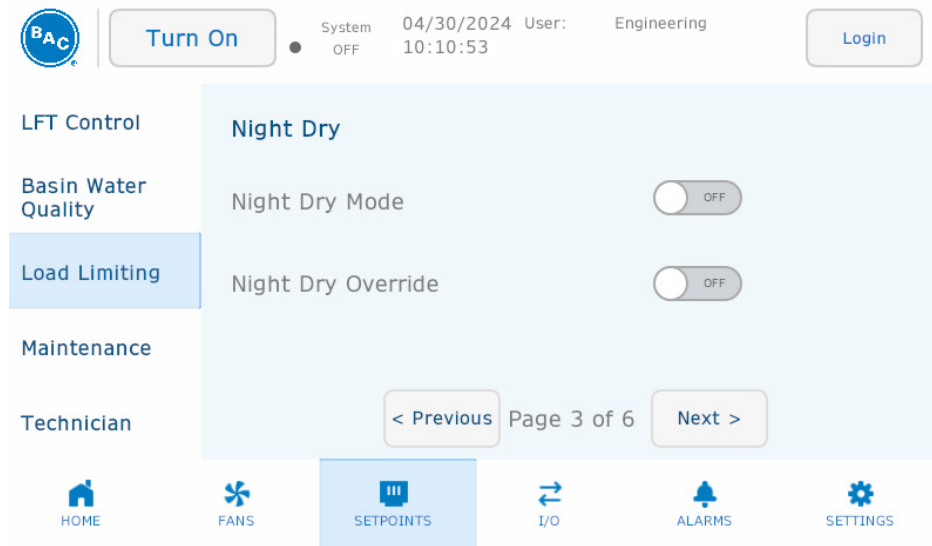
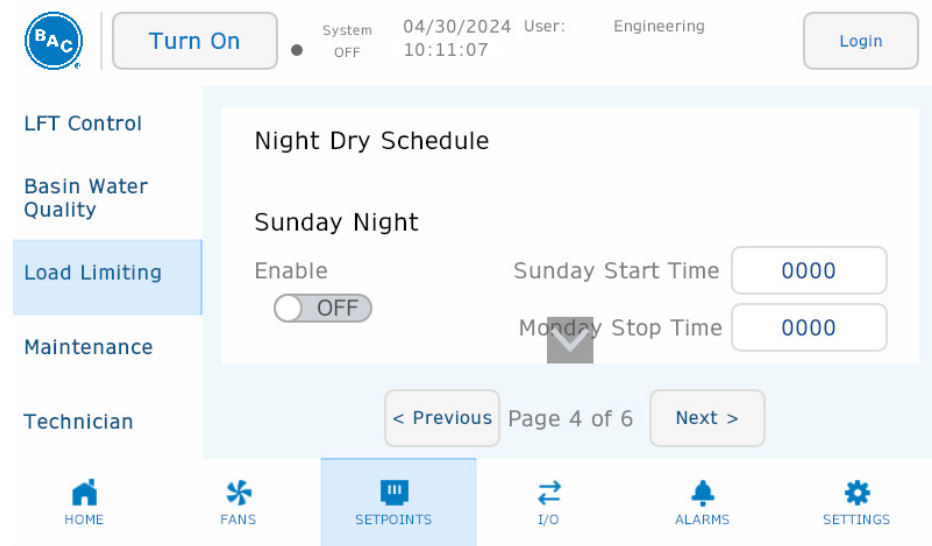

Figure 64. Setpoints Menu, Load Limiting Page 3 of 6
Figure 65. Setpoints Menu, Load Limiting Page 4 of 6
- Night Dry load limiting mode shown in **Figure 64** and **Figure 65** with parameters listed in **Table 17**.
Night Dry Enable/Disable	Allows user to either enable or disable the feature. If enabled, no water will be used during the times set in the schedule shown in Figure 65 .
Night Dry Override	If enabled, no water will be used regardless of the schedule shown in Figure 65 . In addition to the on-screen button, the override can also be enabled with the “NightDryOverride” variable in Table 71 .